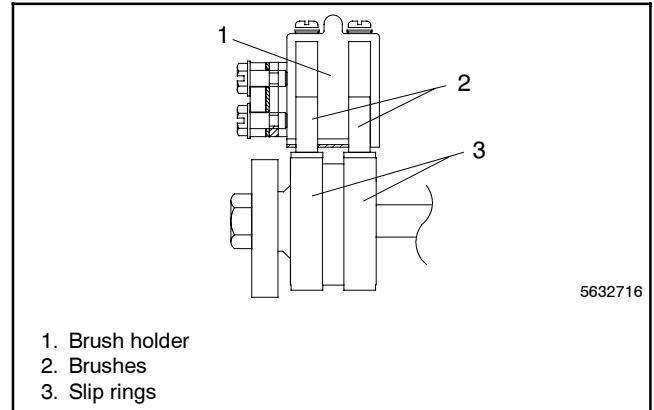

Figure 6-23 Brush Positioning
- b. Verify that the brushes are centered on the slip rings. If required, insert spacers between the mounting surface and brush holder to center the brushes on the slip rings. See Figure 6-23. See Section 5.6, Brushes, for more information.